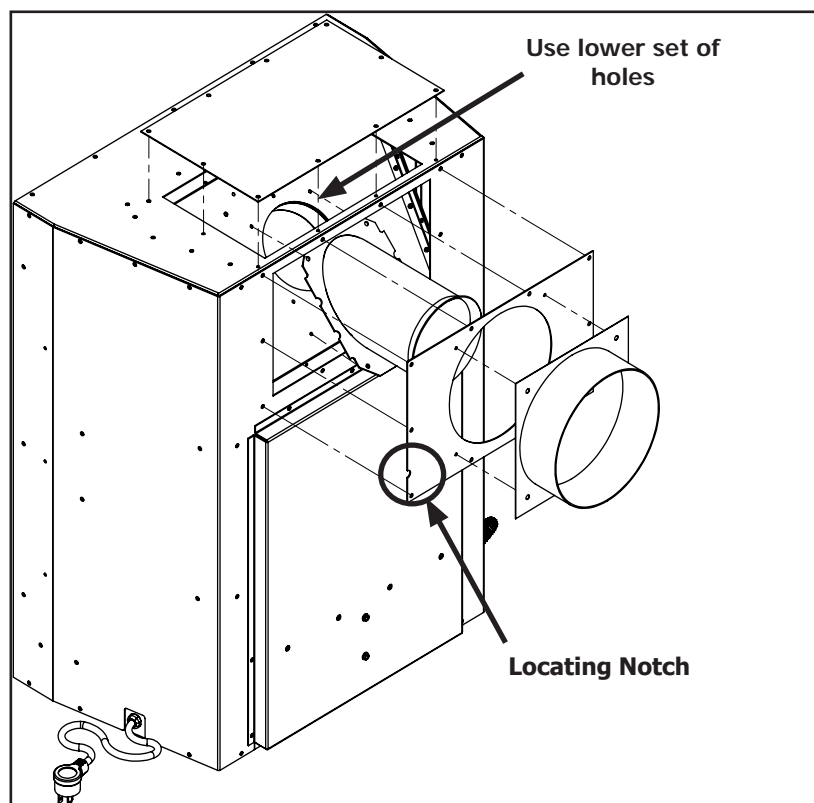

Figure 24. Vent Conversion - Step 2
Step 2: Switch the removed parts around as shown in Figure 24 and re-install all 28 screws. To correctly install the base plate keep the locating notch on each side at the bottom. Also note the exhaust spigot uses a lower set of holes when setup as a rear vent.